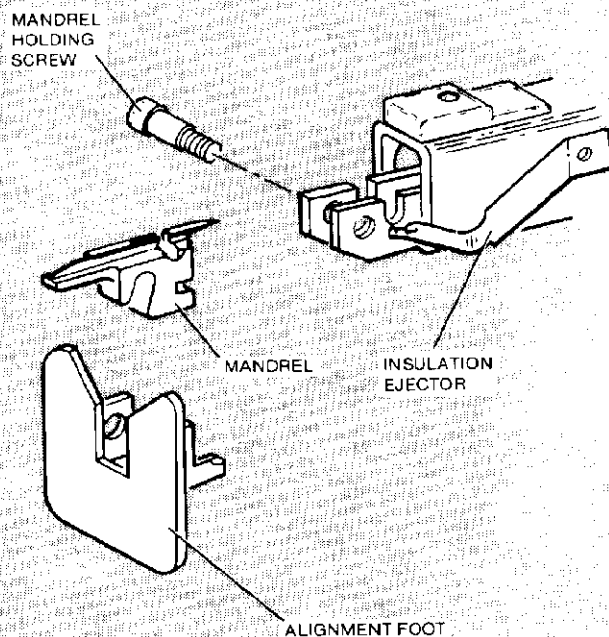

Figure 2
- (b) Remove insulation ejector. See Figure 2.